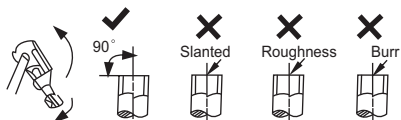

Fig. 20 —Pipe Cutting
- a. Cut the pipe, with a pipe cutter, at 90° degrees (see Fig. 20).